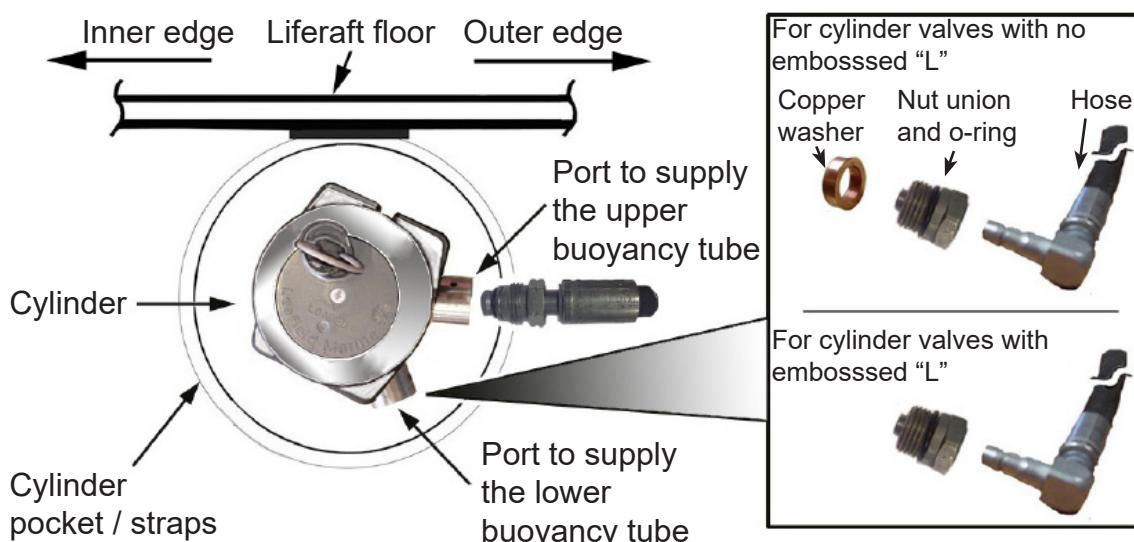

FIGURE 896
- 9.10 Use the pocket/straps to attach the cylinder into the cylinder stowage arrangement, take care not to trap the righting strap. Refer to **Figure 896**.
- 9.11 The cylinder must be orientated so that one of the top operating head outlet runs parallel with the base of the liferaft Refer to **Figure 896**.